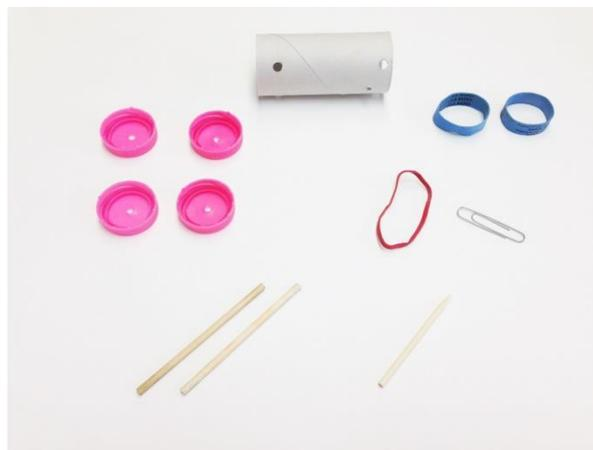

Figure-7
- Prep car parts prior to arrival. *See Car Kit instructions (Figure-7)*
- b. Put kits together (see Figure-7)